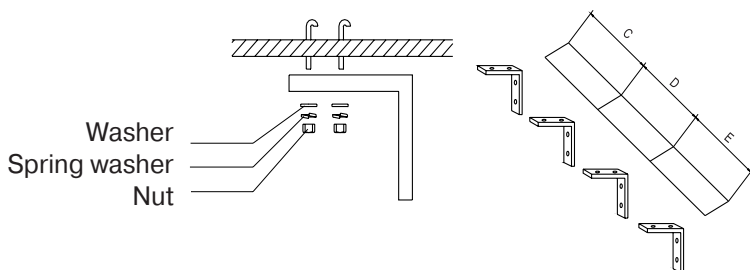

Figure 7. Hanging on the ceiling.
7.3 At installation on the ceiling, use special ceiling brackets (optional) Fig.7.